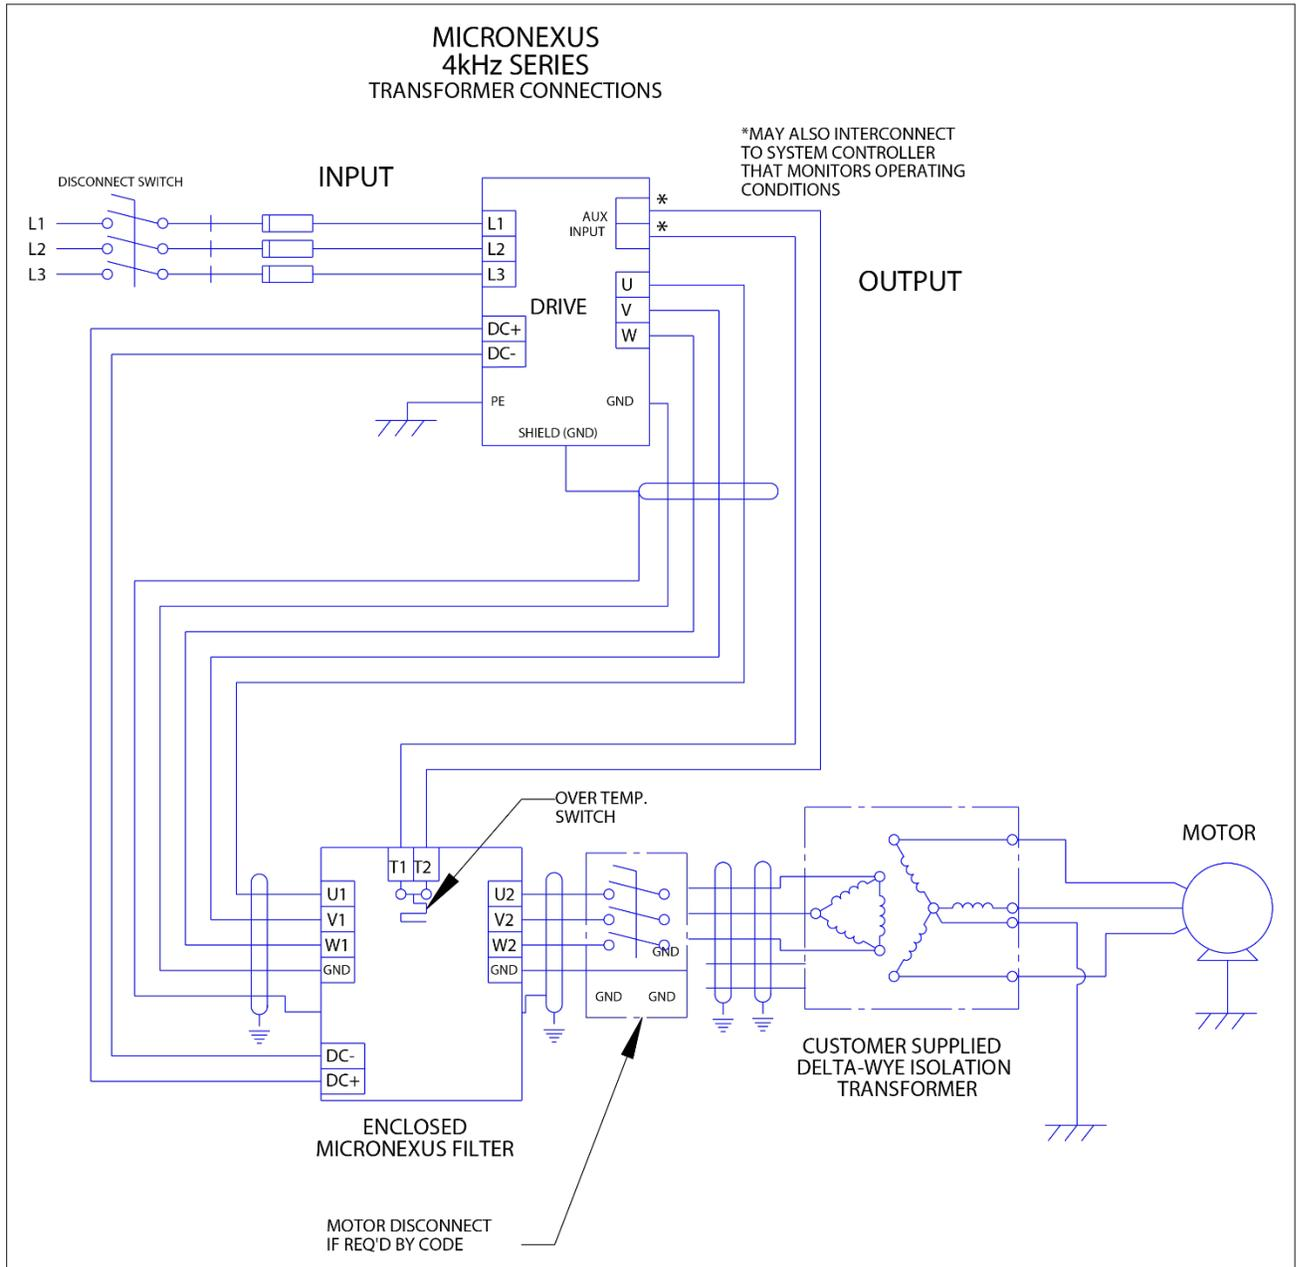

Figure 5-5: Transformer Diagram
- Interconnection between the power source, VFD, MTE filter, transformer, and the motor is shown in Figure 5-5: Transformer Diagram (p19).